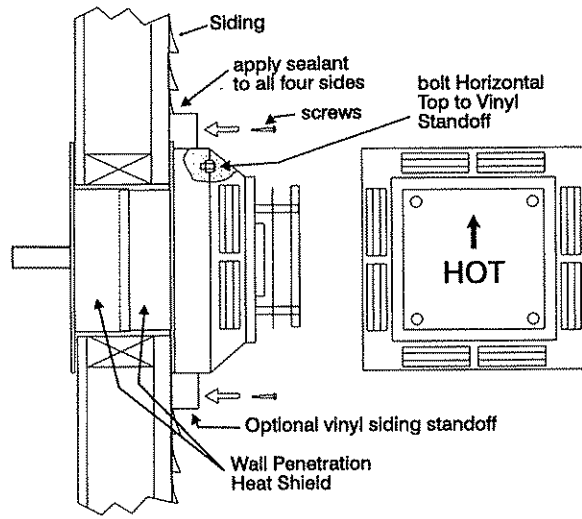

Fig. 5
- 6) **The arrow on the vent cap should be pointing up.** Insure that the 1-1/2" clearances to combustible materials are maintained (Fig. 5). Install the termination cap.